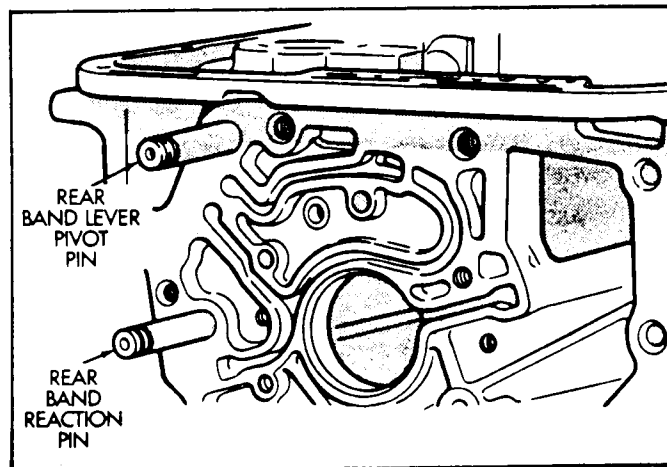

Figure 26
40. Remove the rear band pivot and reaction pins, as shown in Figure 26. Insert and spread snap ring pliers in the pin bore, then twist and pull pins as you remove them from case.